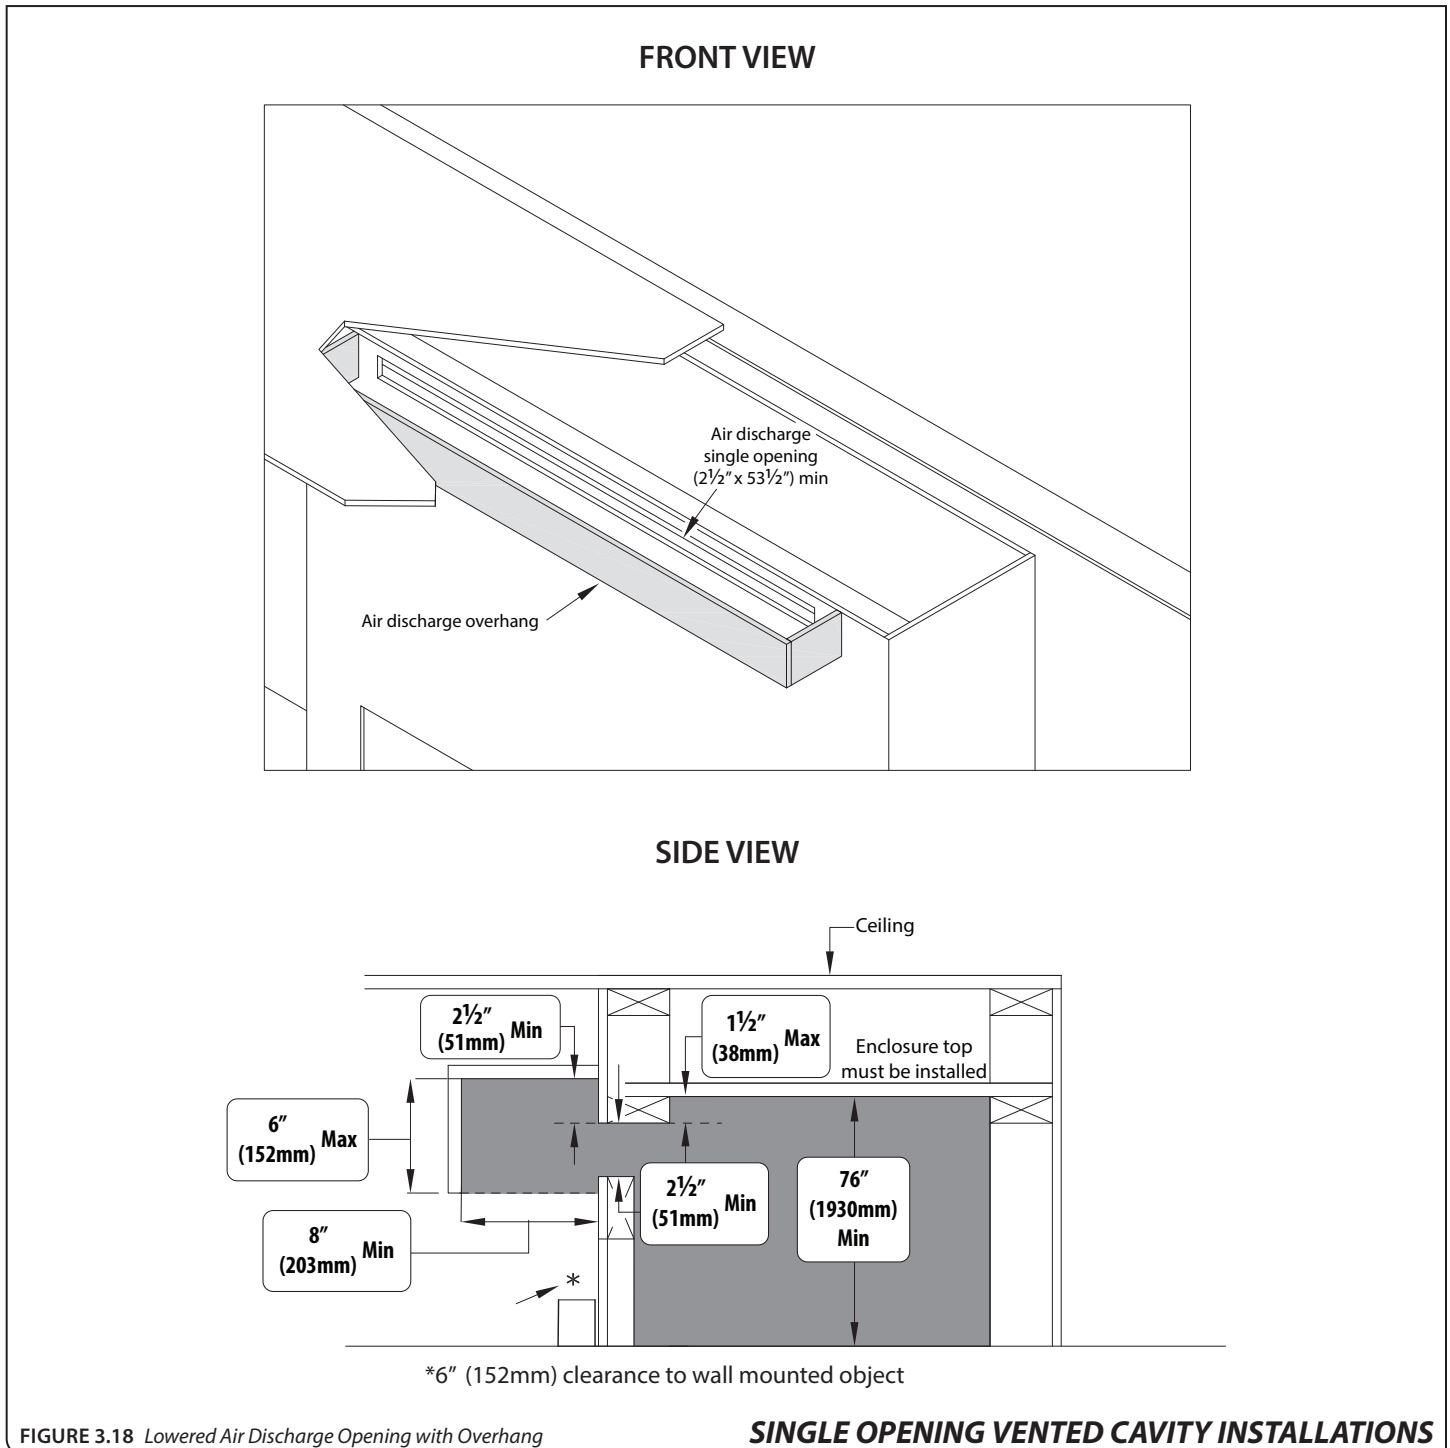

FIGURE 3.18 Lowered Air Discharge Opening with Overhang
- **FIGURE 3.18** shows an alternative installation method where you cap off the fireplace cavity so the air discharge opening can be located further down the fireplace chamber. 1-1/2" (38mm) is the maximum drop for framing the air discharge opening to the fireplace enclosure top. This avoids trapping heat in the upper areas of the vented cavity enclosure. Framing the outlet any lower than 1-1/2" (38mm) will cause overheating and create a fire hazard.
- **FIGURE 3.18** is shown with an air discharge overhang in front of the air discharge opening. This optional installation method can provide a means to visually hide the air discharge opening.